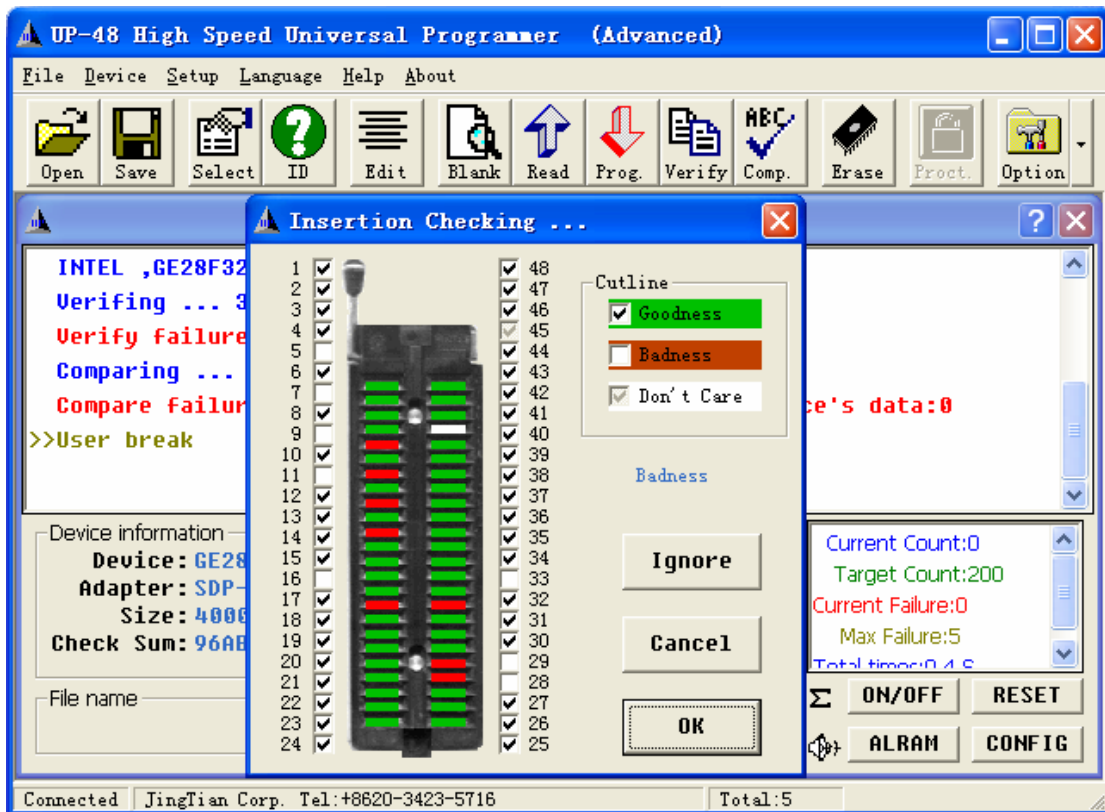

Fig. 7
- Start mass mode, you should select "Mass mode" sub-menu of "Device" menu to get one "Option" dialog box. It's the same as to click "Option" button of Tools bar to show the box, it just warn you to set a serial of relevant options. Press "OK" button of "Option" window to get one "Insertion checking..." window as Fig. 7. Now you can fix the device into the socket and UP-48A. It will auto operate by pre-set options. When operation is finished, it will prompt to "Remove device ..." and go on with another device.